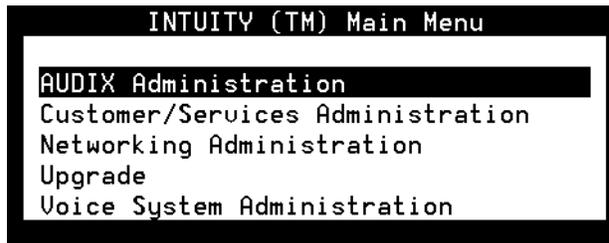

Figure 5-1. Lucent INTUITY Main Menu
- a. Start at the Lucent INTUITY Main Menu (Figure 5-1).
- a. Starting at the Lucent INTUITY Main menu (Figure 5-1), select: